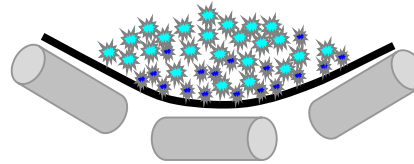

Figure 1
- ① Vibration causes fines to settle on belt, causing coarser material to be thrown farther by head pulley. (See Fig. 1)